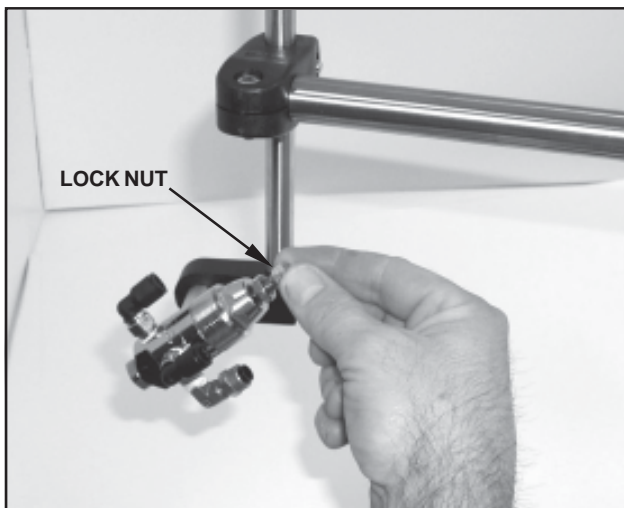

FIGURE 15
- 1- To adjust the fluid adjusting screw, use a $7/16$ " wrench and loosen the lock nut on the rear of the marker body by turning it counter-clockwise as shown in Figure 15.